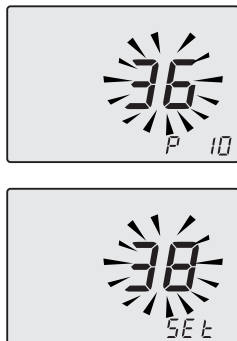

Fig. 8.25
- The writing **P10 - SEt** alternates on the display (Fig. 8.25).